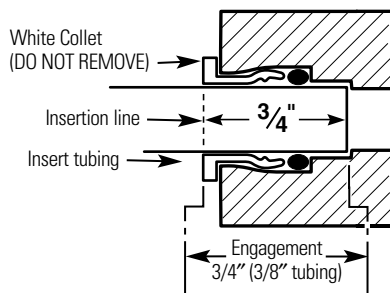

Fig. 7
3. Push the tubing firmly into each fitting on the manifold until the line is flush with the fitting collar. (If the tubing is removed, re-cut the end, measure, mark and re-insert). Tubing must be fully inserted to avoid leaks (Fig. 7). **(To remove tubing: Depress and hold white collet; pull tubing out to remove.)**